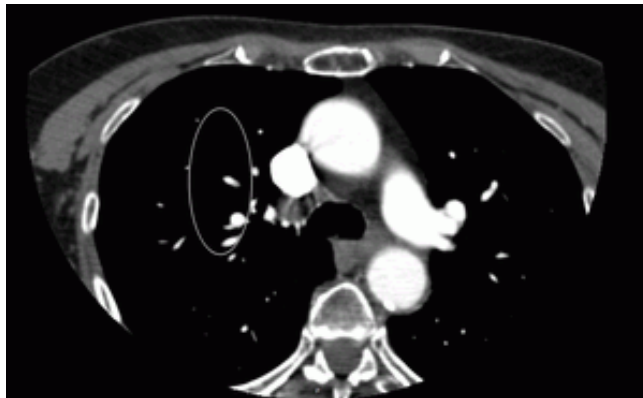

Figure 2.91: Ellipse label
- Click the mouse button to mark the first end of the ellipse. Move the cursor to the place where the opposite end of the ellipse should be located. The ellipse will be displayed on the screen. To fix the second end of the ellipse, click the mouse button. The ellipse is shown in Fig. 2.91.